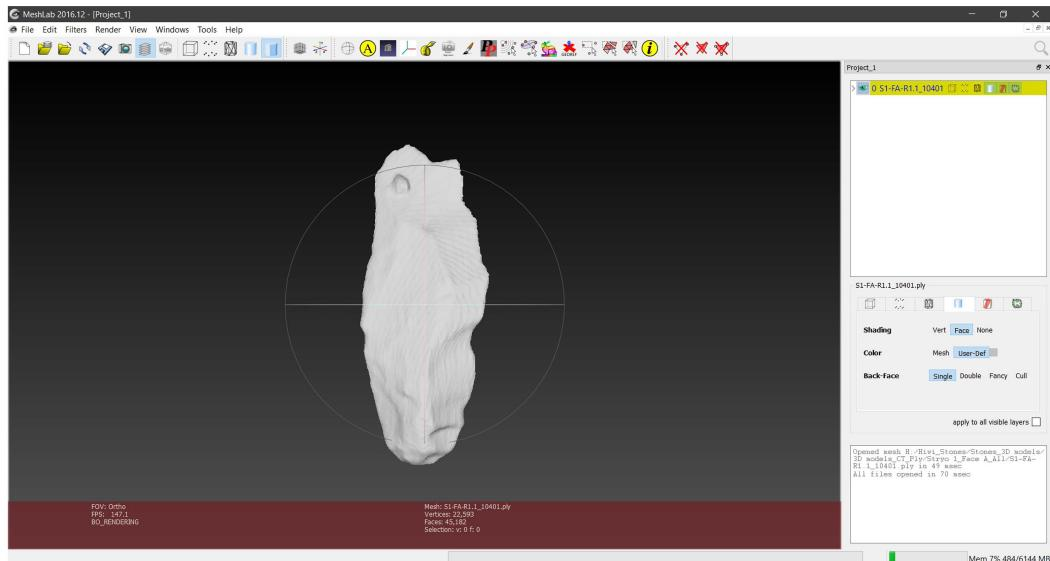

Fig. 35: Artefact opened in MeshLab.
Fig. 35: Lithic artefact fixed on a manual turntable using modeling clay. The turntable was covered with a white cardboard with randomly marked blue and red dots for better tracking. Left (A): Blade tool with proximal side down for the first scanning round. Right image (B): The same blade rotated of 180 degrees (distal side down) after the completion of the first scan.
79 To load the first artefact into MeshLab, drag the model file and drop it into the 3D View Panel of MeshLab. Alternatively, click on 'File' in the top menu bar and choose 'Import Mesh', then navigate to the target folder and choose and open the respective model by pressing 'Open' (Fig. 35)